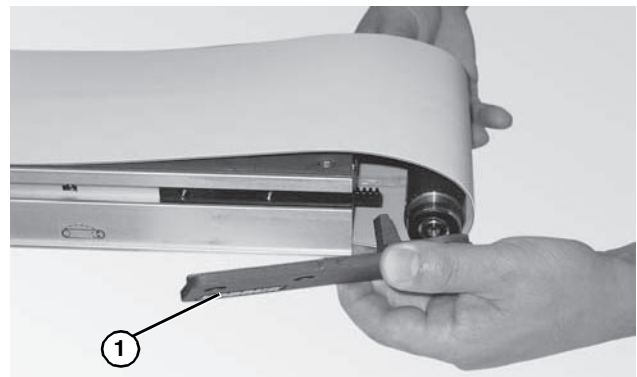

Figure 45
2. Place the head plate (**Figure 45, item 1**) and attach the head plate to the conveyor frame with the two (2) screws removed. Tighten screws 60 in-lb (7 Nm).